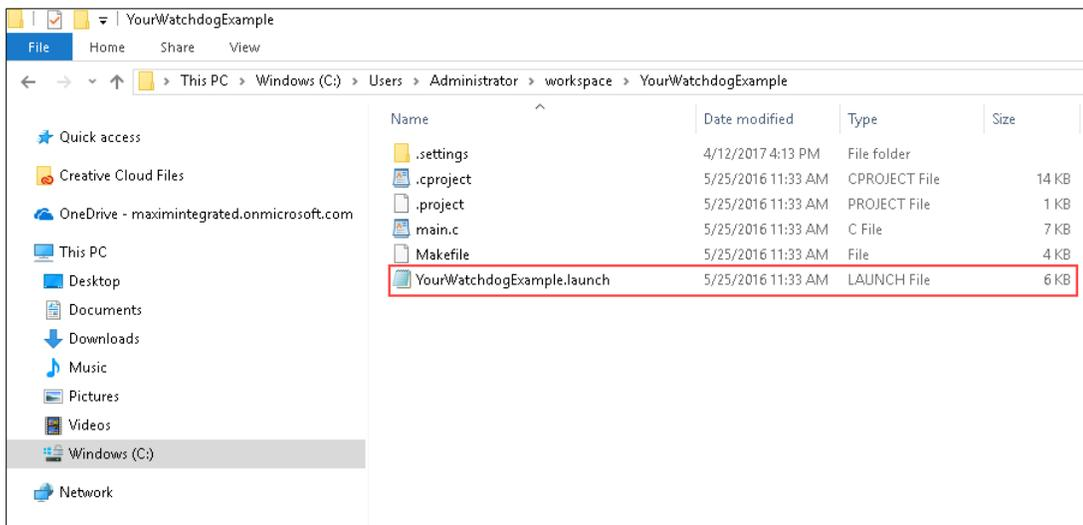

Figure 15. YourWatchdogExample.launch file.
6. Rename the Watchdog.launch file to YourWatchdogExample.launch, as shown in **Figure 15**.